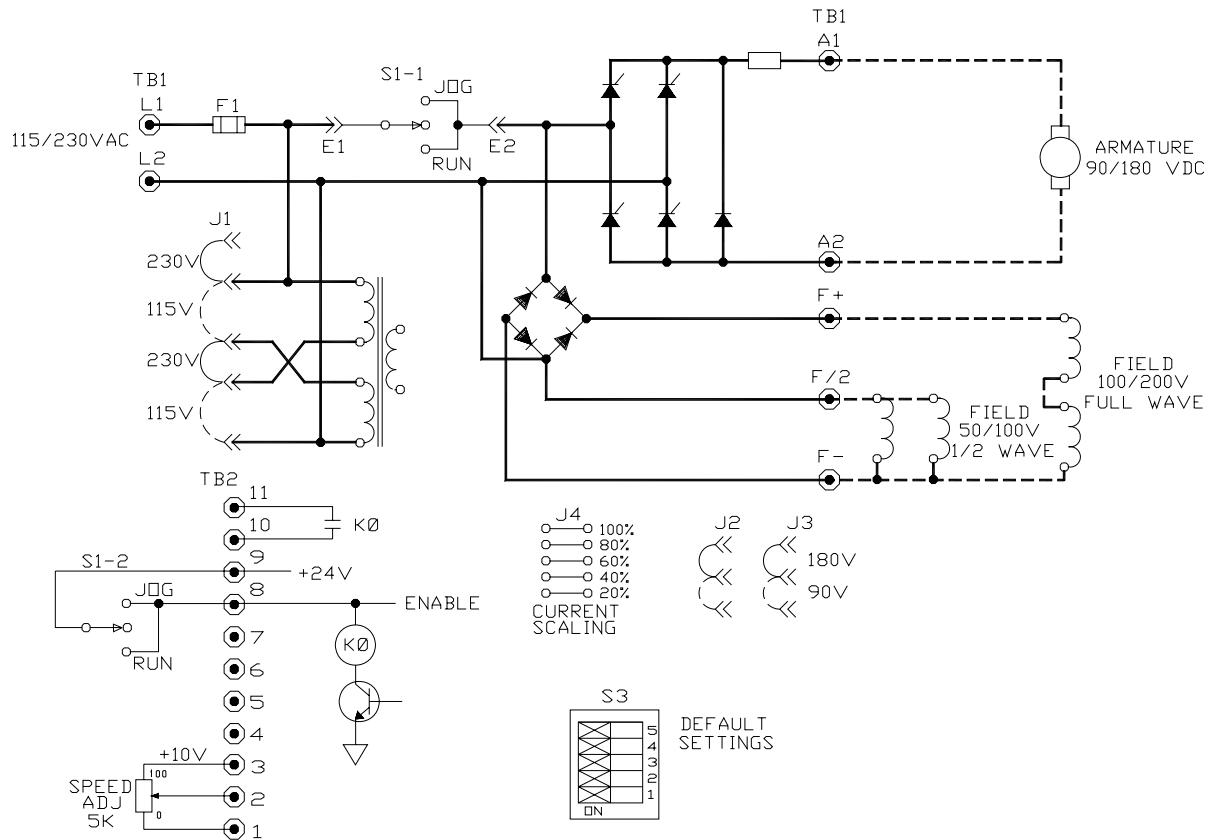
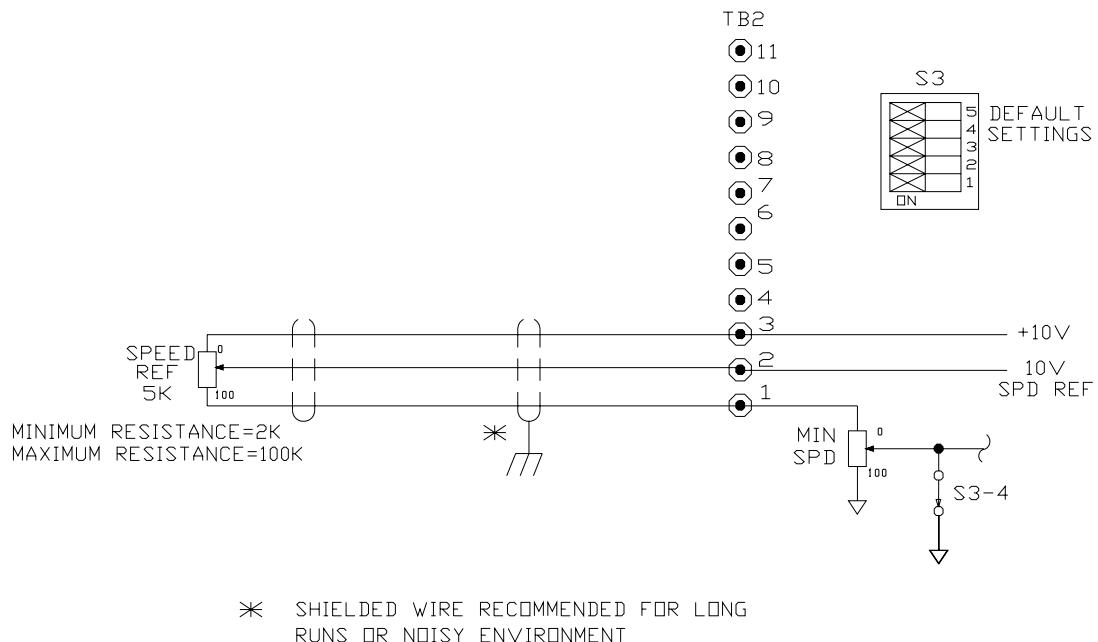

Figure 3. Logic connection diagram, Run-Stop-Jog Switch
Figure 12. Signal Connection Diagram, Motor Speed Potentiometer
10. If remote operator control wiring and/or signal wiring is required, connect the controller as shown in the appropriate connection diagram (Figures 3 through 21). Figures 3 through 11 show operator control connections, and Figures 12 through 21 show signal connections.